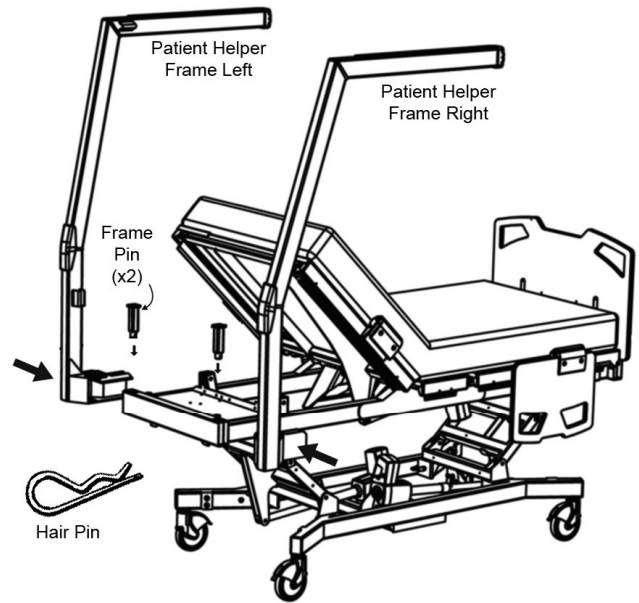

Figure 2
2. Drop (1) Frame Pin in place securing the left Patient Helper frame to the bed frame (Figure 2). Secure Frame Pin with hair pin.